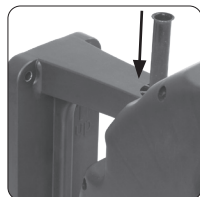

Fig. 2 Pivot pin
6. Connect the hose reel to the mounting bracket with the pivot pin. (Fig. 2)